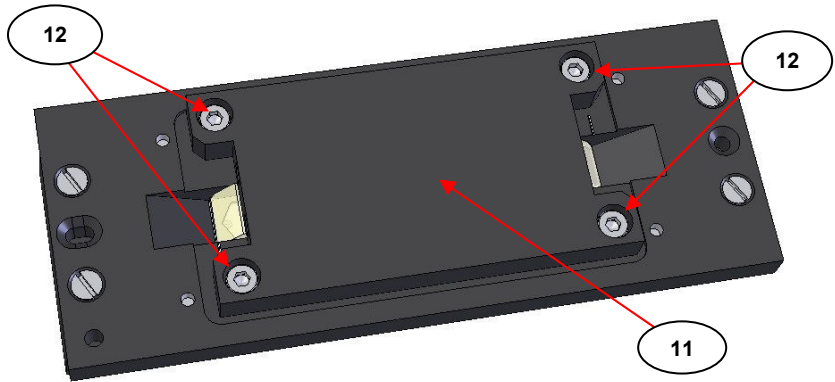

Fig 6. Underside View of Thermostabilised Flow Through Top Plate Assembly
1) Lay the Top Plate assembly on to a clean workspace area and proceed to remove the four M3 x 16mm cap head screws (12) from the lower thermocirculating plate (11) on the underside of the Top Plate assembly using the 2.5mm A/F Allen key supplied. Turn the screws (12) anticlockwise to remove. (See Fig 6.)
4) Carefully replace the lower thermocirculating plate (11) over the lead pad (13) and crystal (9) and refit the four screws (12). Ensure that the lead pad (13) and crystal (9) are not dislodged from their central positioning. (See as Fig 6.)
5) Exert a pressure at the middle of the lower thermocirculating plate (11) with your thumb and tighten the four screws (12) a little at a time, in a rotational sequence, to apply the pressure to the lead pad (13), crystal (9) and Isolast gasket (10) assembly. The objective is to bring the lower thermocirculating plate (11) into contact evenly and levelly to the main body plate (4) for tightening of the components together to avoid any sample fluid leakage in operation.